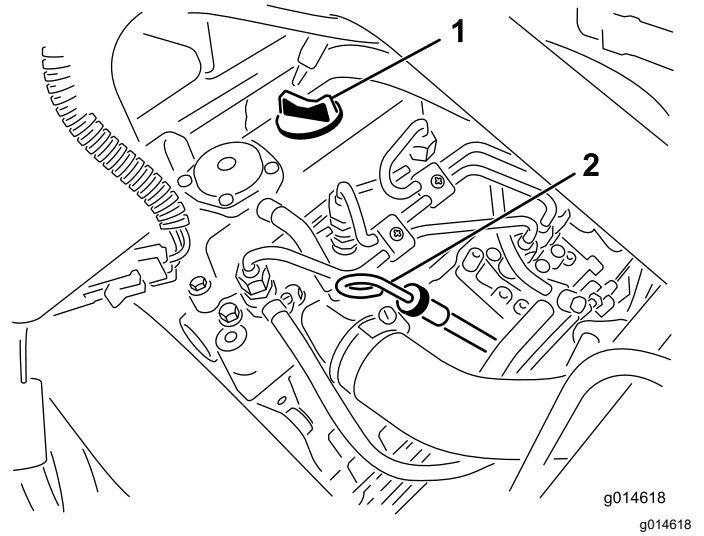

Figure 34
2. Remove the dipstick and wipe it with a clean rag (Figure 34).